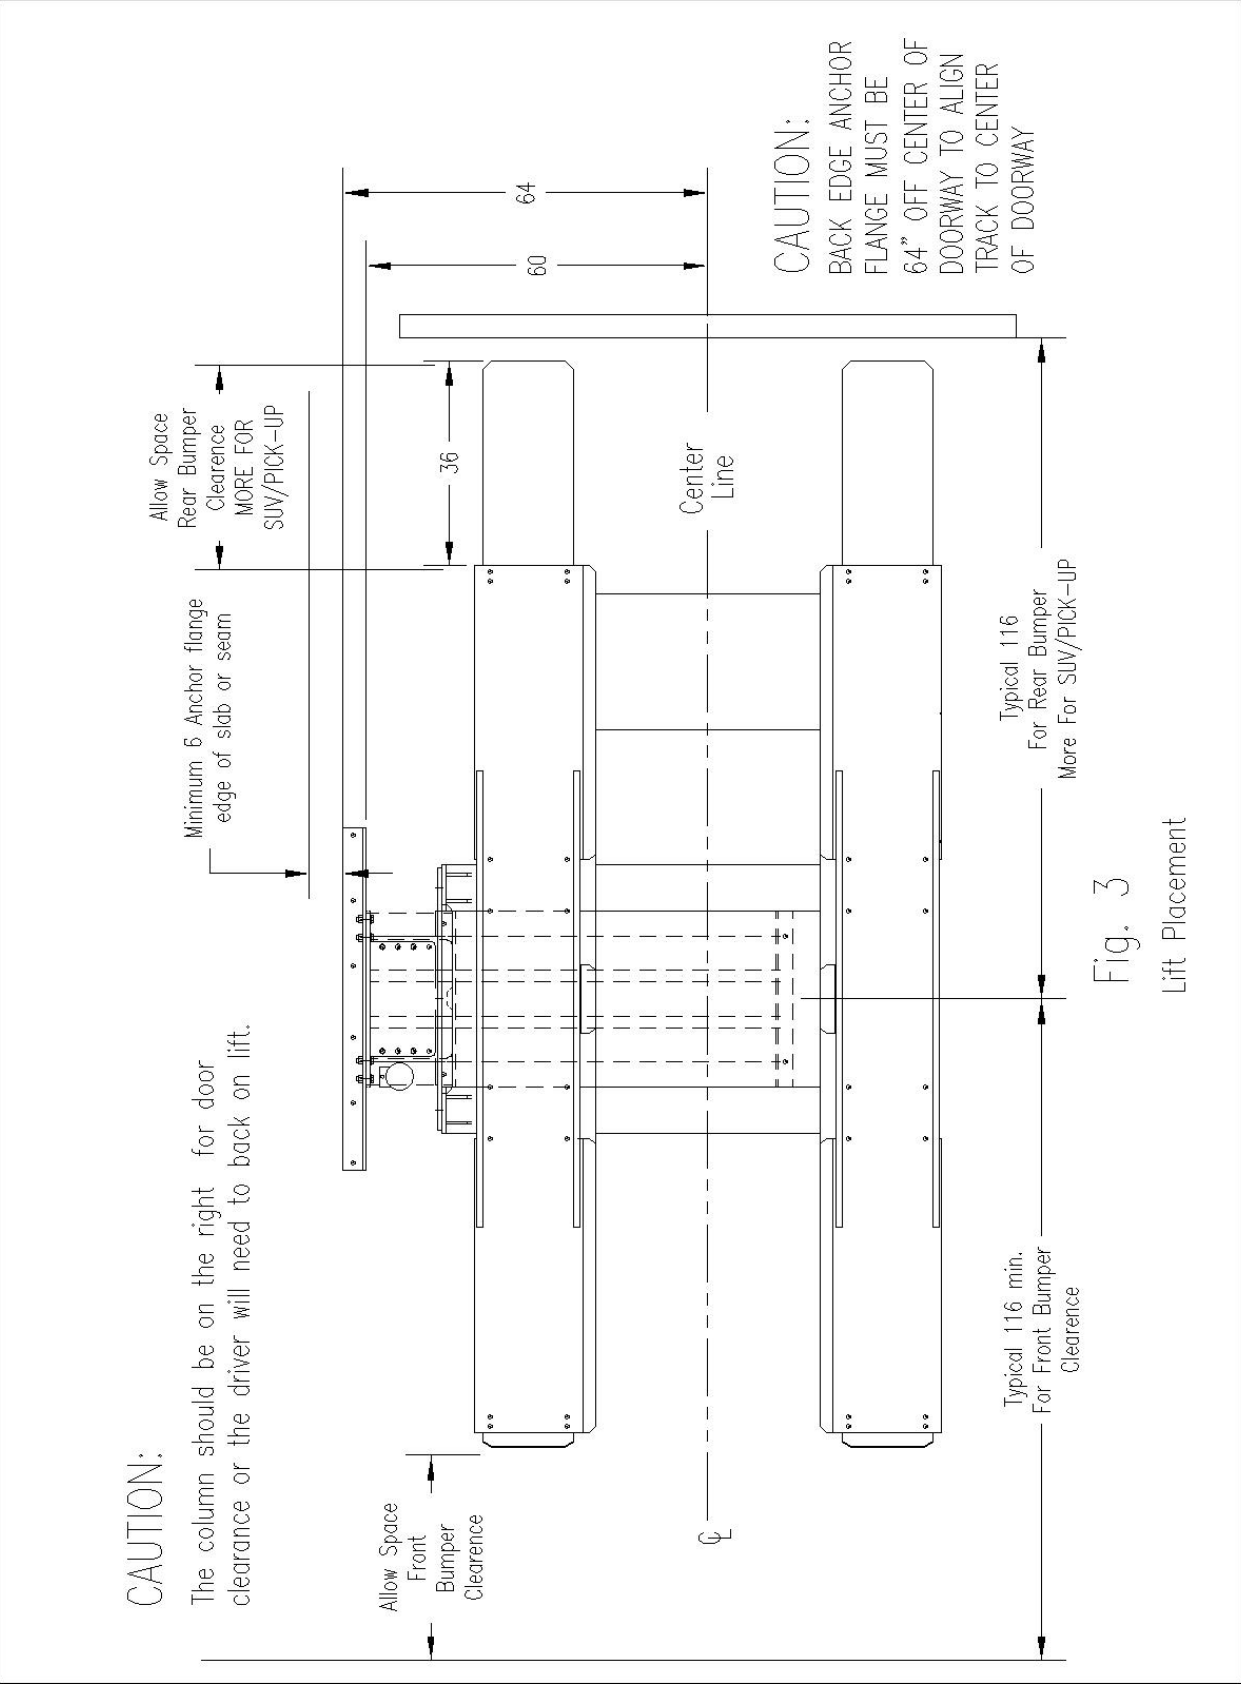

Fig. 3
3. Refer to **Fig.3** and **Fig.4**, Base Layout, to begin the positioning of the lift structure which shows the base placement, the locations of the front and rear of the lift tracks, and recommended distance to the nearest obstruction.